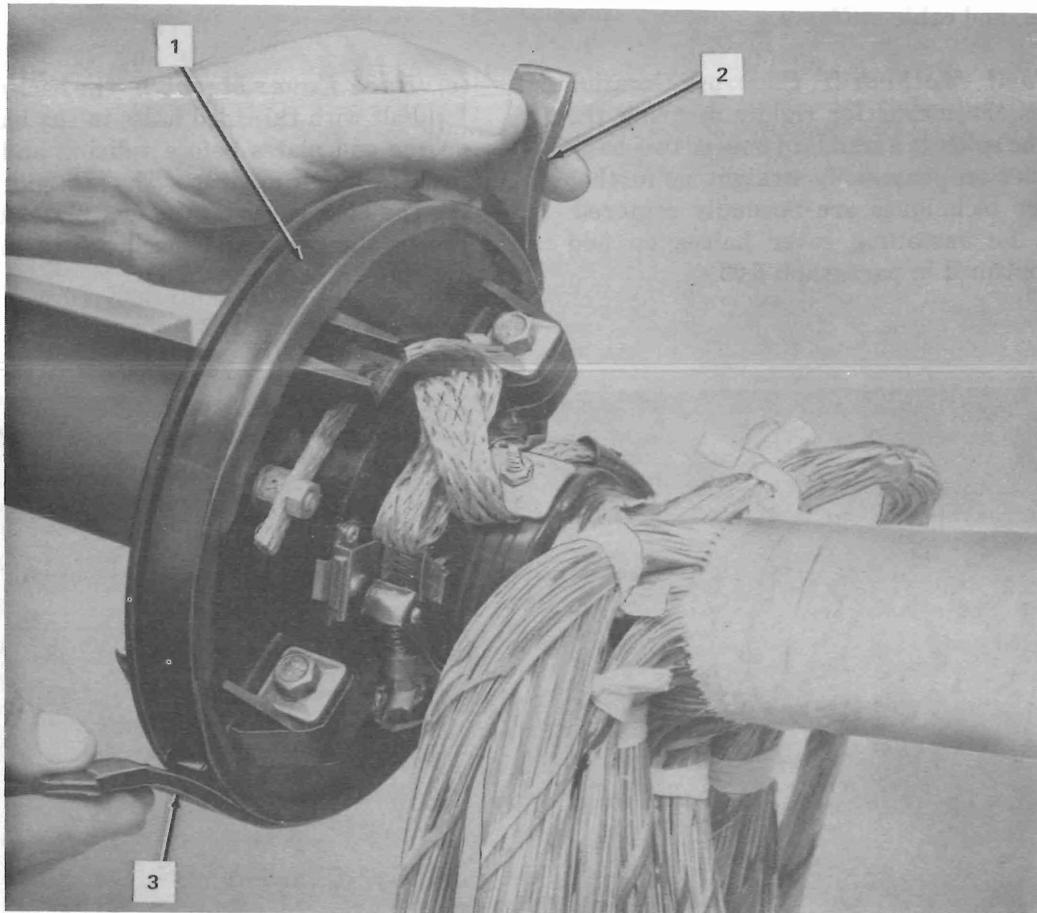

Fig. 34—Placing 3/4 Inch Wide \times 1/4 Inch Thick B Sealing Tape in Groove of End Plate
5.02 The procedures for placing the back cover (the half with threaded holes in the bar) on the end plates to maintain proper alignment and spacing during splicing are outlined in Fig. 34 through 37.